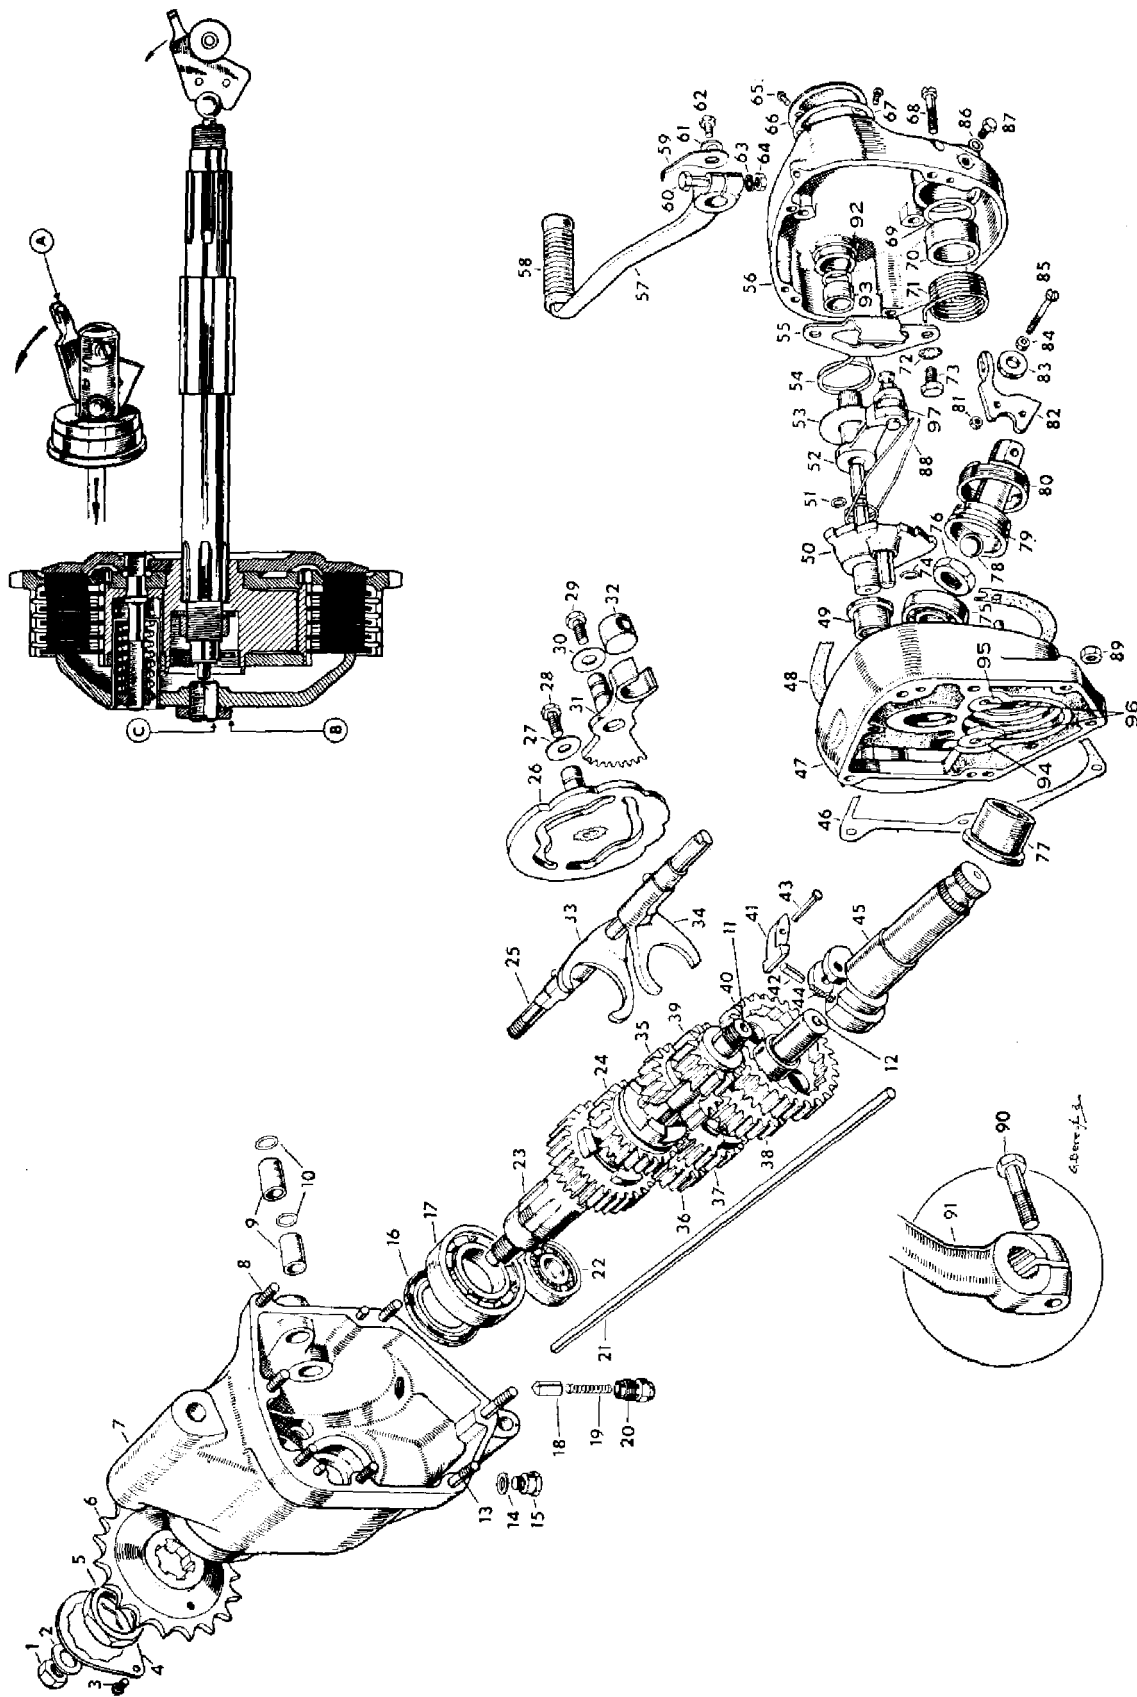

FIG. 41
Dismantling the gear box. (Figures in parenthesis apply to Fig. 41.) If the gear box is to be completely dismantled, first remove the clutch as detailed for 'removing engine from frame', including the rear portion of the front chain case. Have available a new set of gaskets.
Clutch slip. The clutch operating mechanism is shown in Fig. 41. To enable the clutch to function satisfactorily it is essential to have clearance between the clutch push rod and the thrust stud (C). The fact that there is play, or lost motion, at the handlebar lever end does not guarantee there is clearance between the push rod and thrust stud.